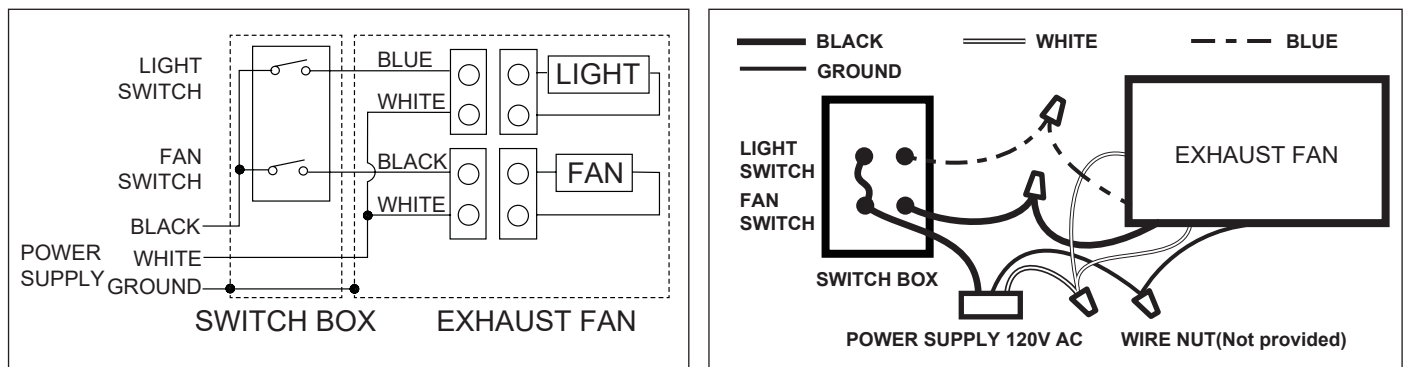

Fig 15
9. Slide the power cable through the hole of fan housing and connect it to housing with appropriate UL approved wire nuts. Connect black to black, white to white, blue line connect to wire from the light switch and green to green or bare wire. See Fig 15.